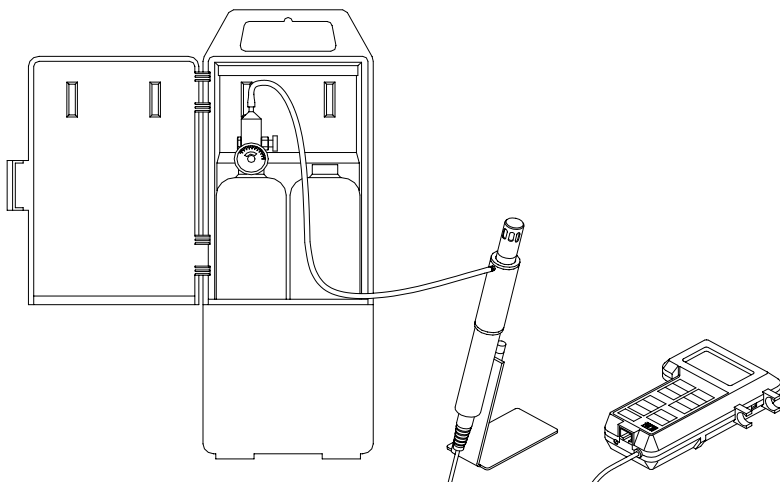

Figure 4-1: CO₂ Calibration
1. Locate the calibration collar and slide it over the sensing probe. Make sure that the collar completely covers the CO₂ diffusion holes. Refer to Figure 4-1.